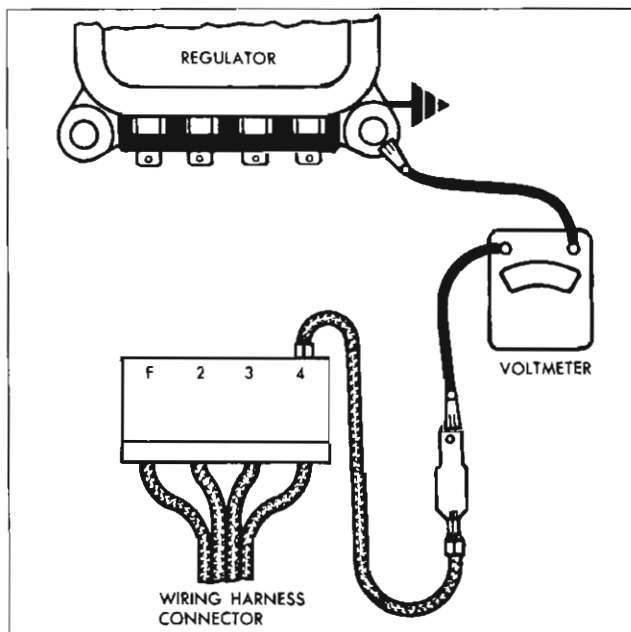

Fig. 14—Indicator Circuit Resistance Test
1. Connect a voltmeter from the wiring harness connector to ground as shown in Figure 14.